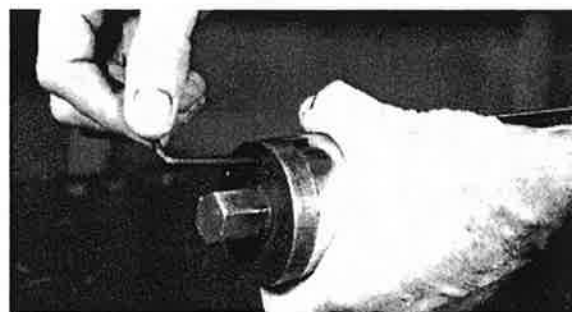

Figure 67. Loosen Set Screw
- B. Use hex wrench to loosen the set screw in the top of the retainer nut. See Figure 67.